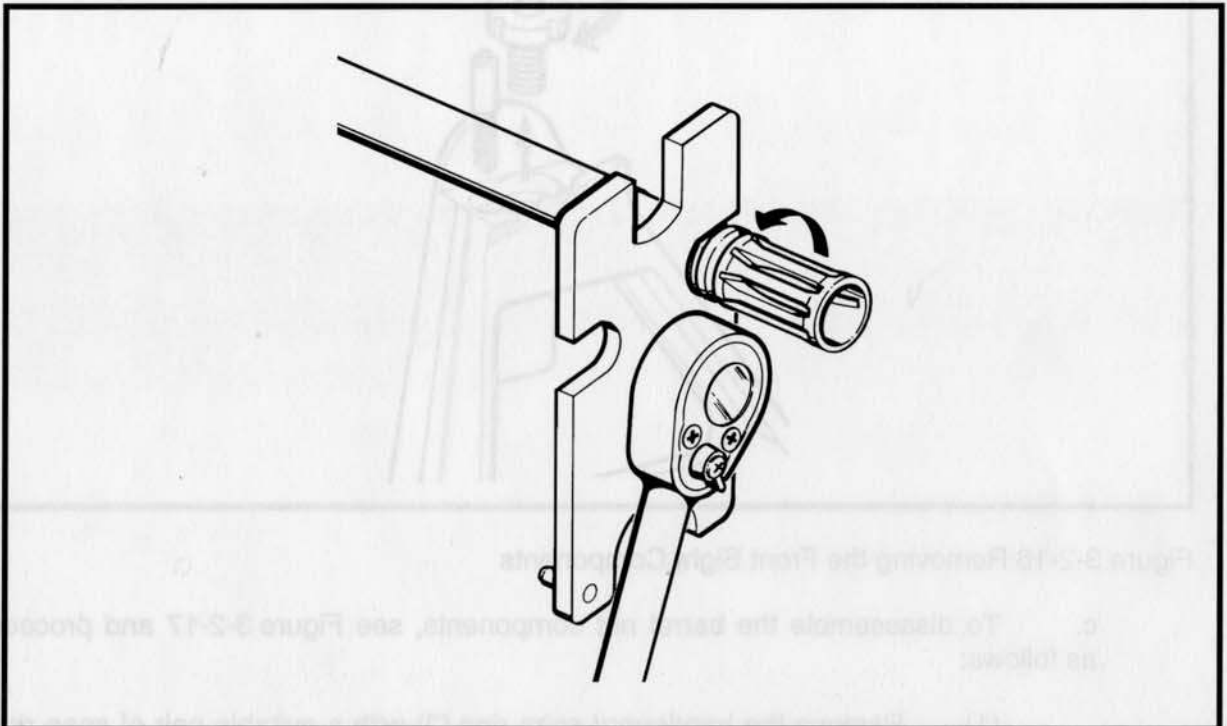

Figure 3-2-14 Unscrewing the Compensator
- (1) Clamp the barrel in a vice, equipped with vice jaw caps to ensure an adequate grip without damage to the barrel;
- (2) Using the combination wrench and 1/2 inch drive ratchet, unscrew the compensator in a counter-clockwise direction, as viewed from the front. See Figure 3-2-14; and